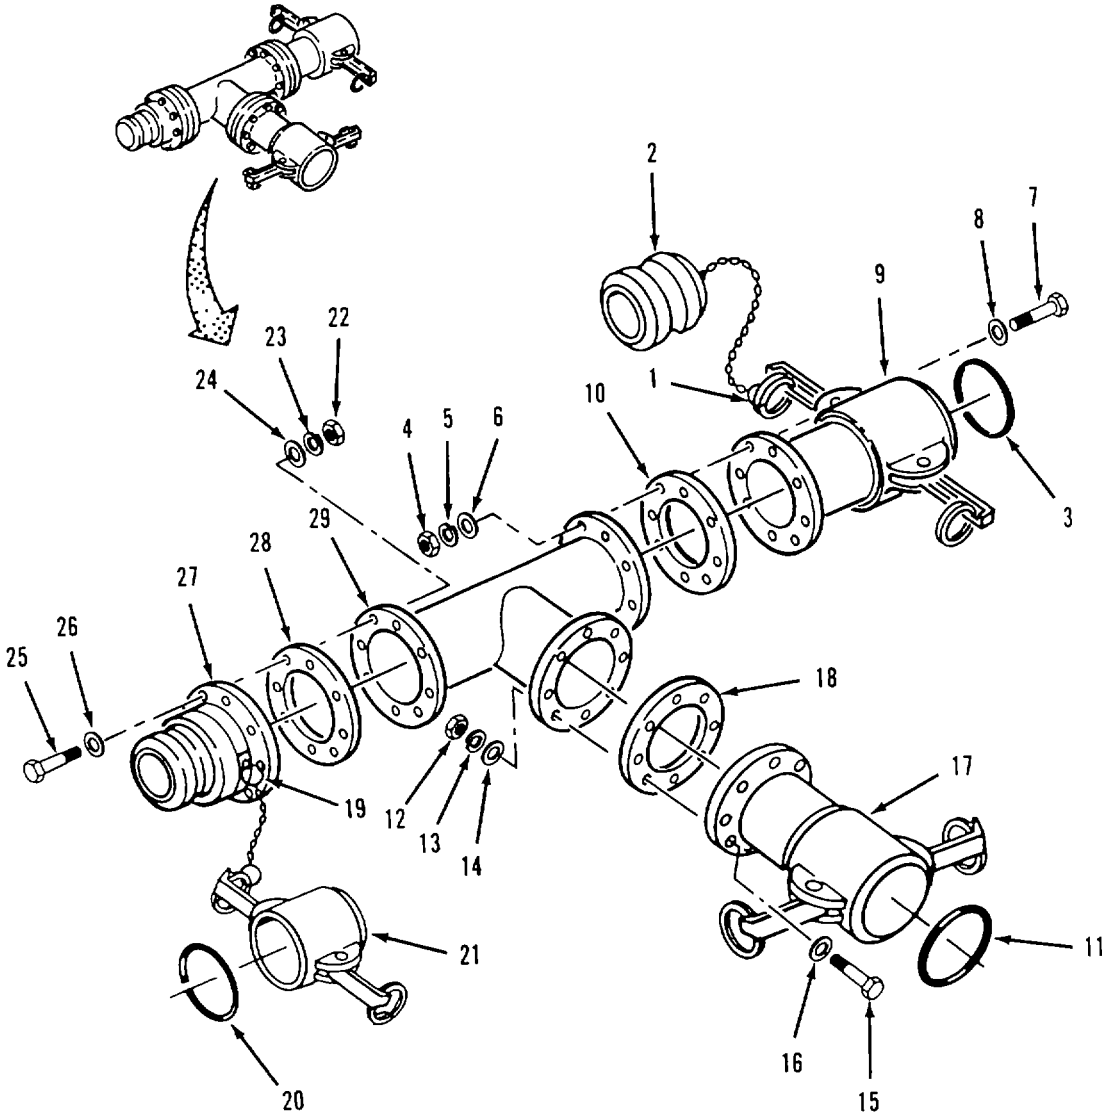

Figure 4-39. Tee Assembly (9115-Y) Assembly
- (1) Inspect male coupling (27) for cracks.
- (2) Inspect female couplings (9 and 17) for cracks and damaged lock arms.
- (3) Inspect tee (29) for cracks and corrosion.
d. Repair. Replace defective components Do not reuse sealing components.e. Assembly. Refer to figure 4-39.
- (1) Position gasket (28) and male coupling (27) on tee (29).
- (2) Install eight flat washers (26), screws (25), flat washers (24) lockwashers (23) and nuts (22).